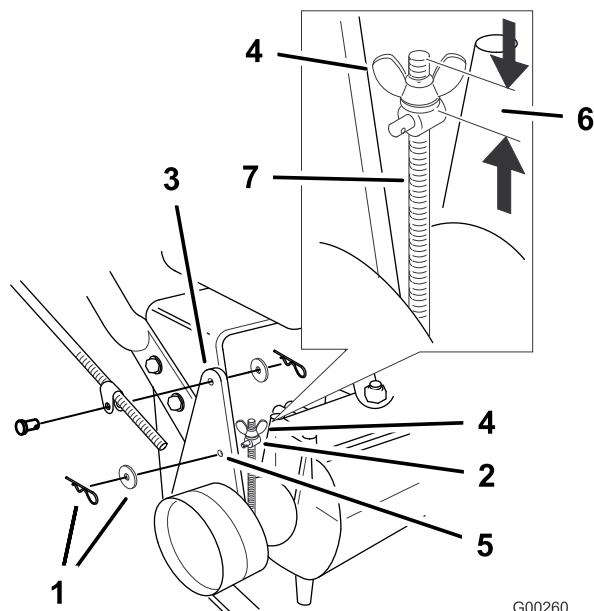

Figure 45
Note: For the initial adjustment, adjust the wing nut until it is 1-1/4 inches from the top of the rod (Figure 45).
5. To adjust the brake remove the hair pin cotter and washer from the brake lever and trunnion (Figure 45).
8. Install the trunnion into hole F (Figure 45). Tighten the wing nut.
9. Secure trunnion to brake lever with washer and hair pin cotter (Figure 45).